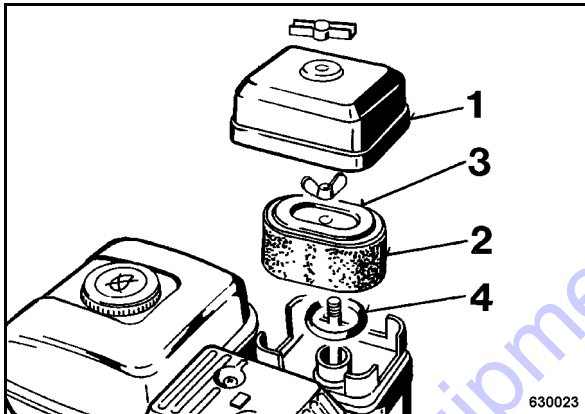

Fig. 32
- Remove cover (1) (Fig. 32) and pull the foam insert (2) off the paper element (3).